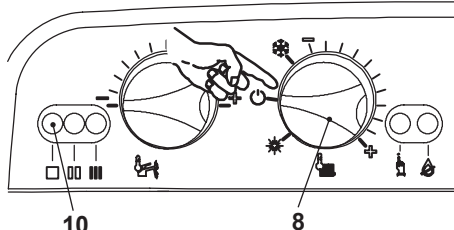

Fig. 8.2
- Turn the boiler OFF positioning the function selector 8 as indicated in Fig. 8.2.